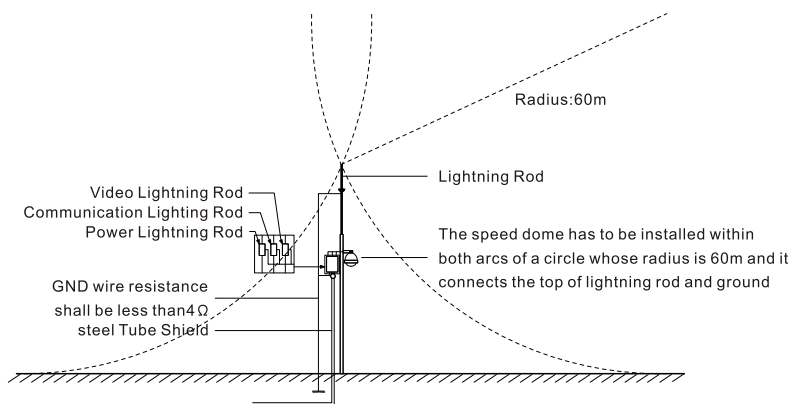

Figure 8-1
- System shall adopt equal-potential wiring. The earth device shall meet anti-jamming and at the same time conforms to your local electrical safety code. The earth device shall not short circuit to N ( neutral ) line of high voltage power grid or mixed with other wires. When connect the system to the earth alone, the earth resistance shall not be more than  $4\Omega$  and earth cable cross-sectional area shall be no less than  $25\text{ mm}^2$ . See Figure 8-1 for the lightning protection installation mode for outdoor anti-corrosion bullet camera.